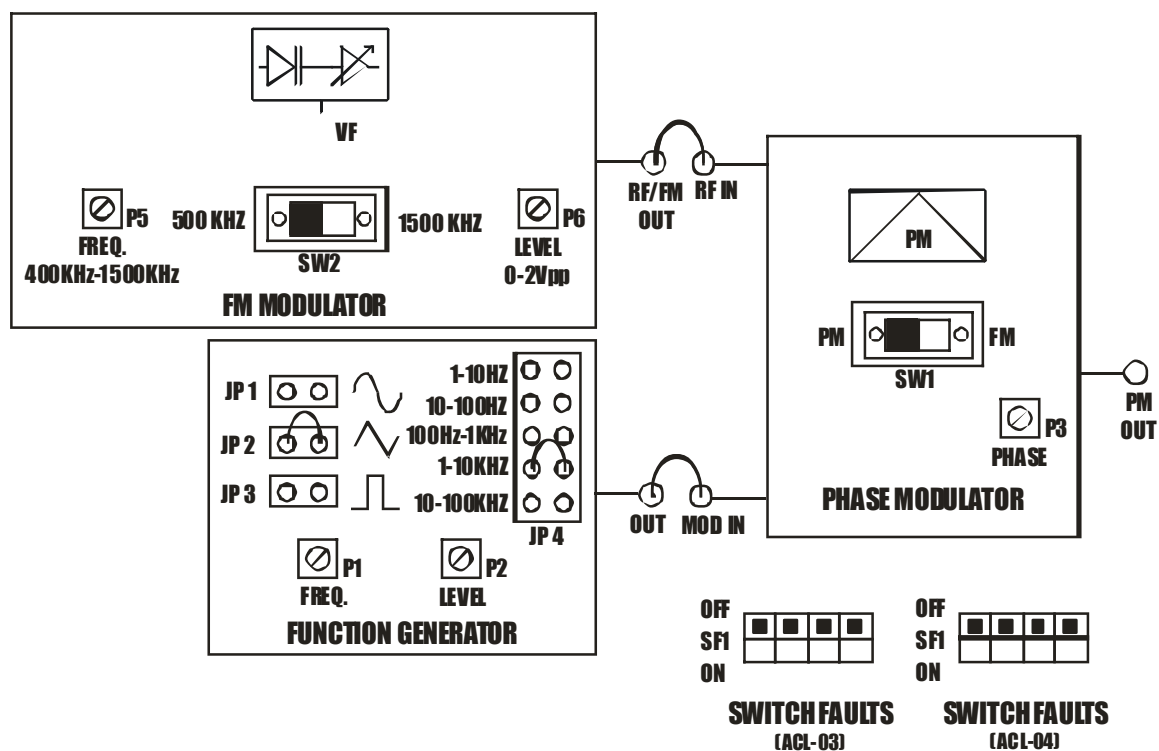

FIG.7.1 BLOCK DIAGRAM FOR PHASE MODULATION
- Refer to the FIG. 7.1 & Carry out the following connections.